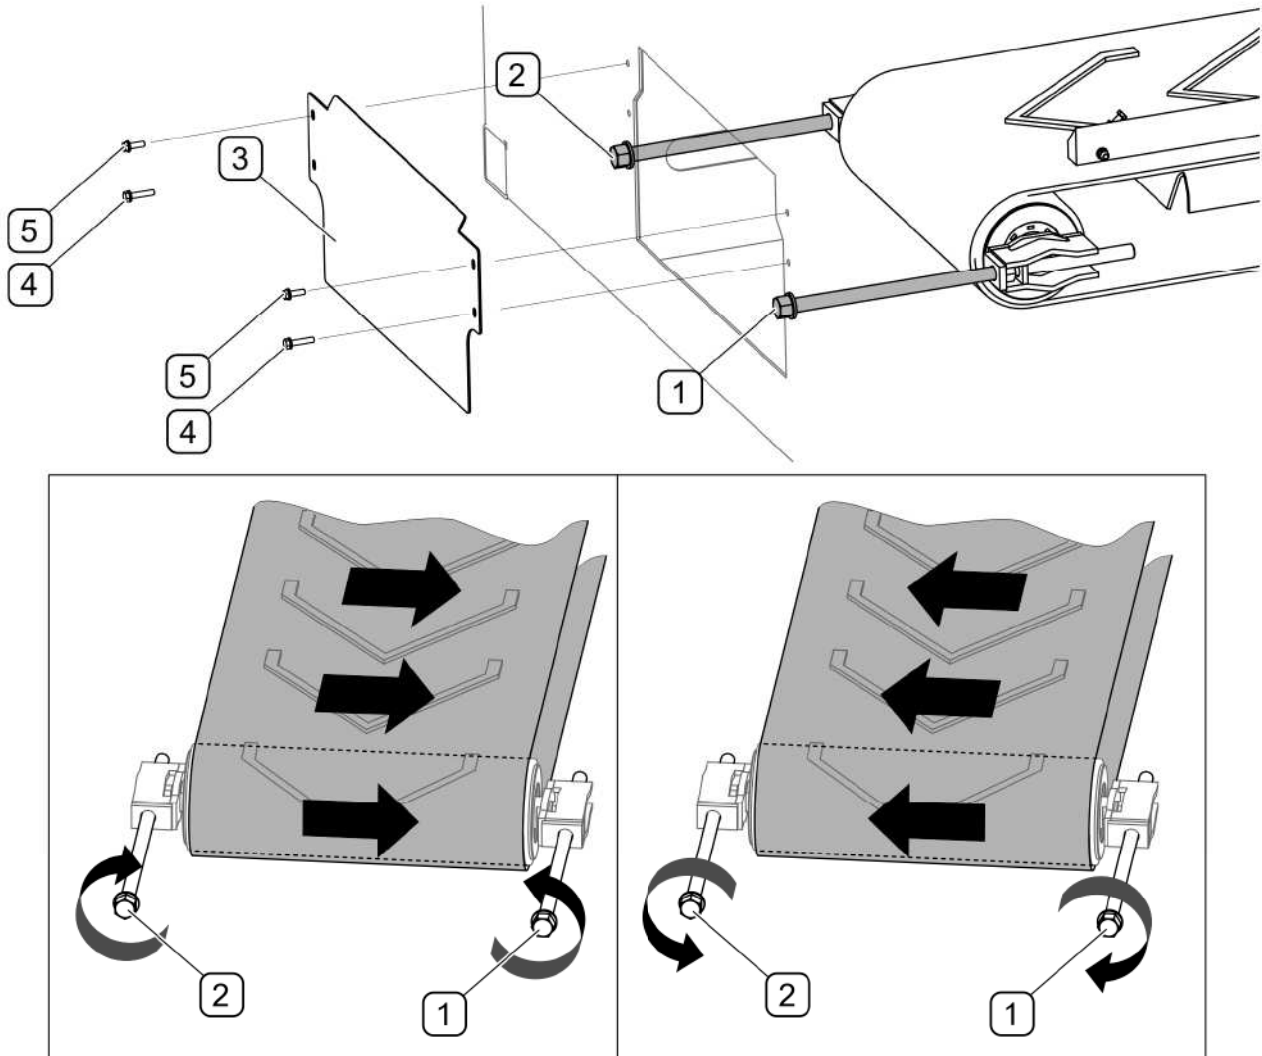

FIG. 5.8 Adjustment of tightening roller
Before starting conveyor belt adjustment (FIG. 5.8), unscrew bolts (4) and (5) and remove cover (3). Connect the machine to the mains, activate "UNLOADING" function in "COUNTERS" menu on the control panel. Turn on electric motor using switch on the drive wheel column. A detailed description can be found in section 4.9 UNLOADING.
Conveyor belt is adjusted during conveyor operation by means of tensioning bolts (1) and (2) located on the front wall of the tank (FIG. 5.8). Depending on shifting of conveyor belt (FIG. 5.8), choose proper rotation direction of tensioning bolts (1) and (2). During the adjustment, make one turn of each bolt and wait for some time to see the effect of the adjustment. Repeat the activity until moving conveyor belt is positioned in the middle of the conveyor roller.
Conveyor belt can be tightened when the conveyor drive is switched off. Conveyor belt is tightened by means of bolts (1) and (2) located on the front wall of the tank (FIG. 5.8). Turn both bolts (1) and (2) clockwise using force of about 25 Nm. To avoid shifting the belt sideways to the edge of the roller, turn both bolts by the same number of rotations.